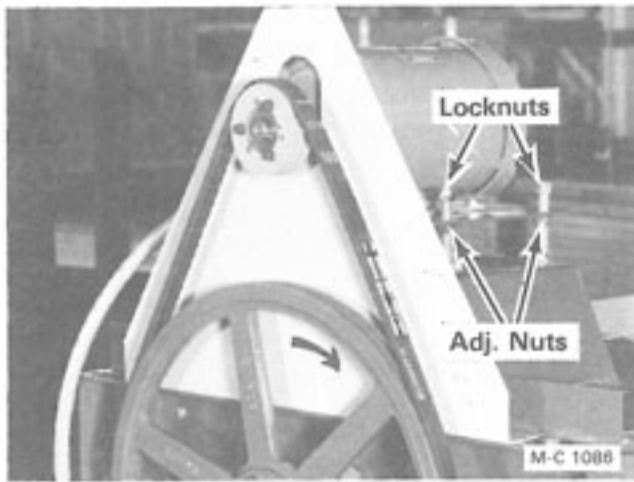

Figure 32
1. Adjust the belt tension by loosening the locknuts and raising the motor mount plate evenly with the four adjusting nuts, then tighten the locknuts, see Figure 32.